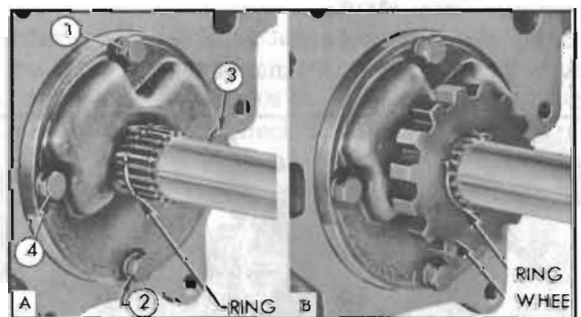

Figure 5-91—Pump Bolt Tightening Sequence—Installation of Ratchet Wheel
4. Install pump bolts with lockwashers, tighten evenly to 5 ft. lbs. torque in sequence shown in figure 5-91 (A), then tighten in same sequence to 25-30 ft. lbs. torque.
1. Install a retaining ring in the forward groove in output shaft, install ratchet wheel, then install retaining ring in rearward groove in output shaft. See figure 5-91.